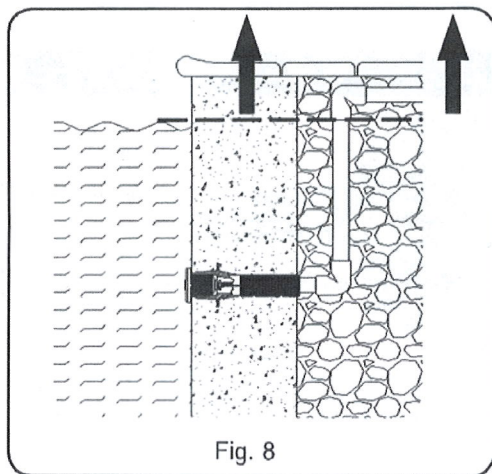

Fig. 8
2. The wall conduit must be extended with a cable conduit the length of which remains above the maximum level of the swimming pool or SPAS (Fig. 8).